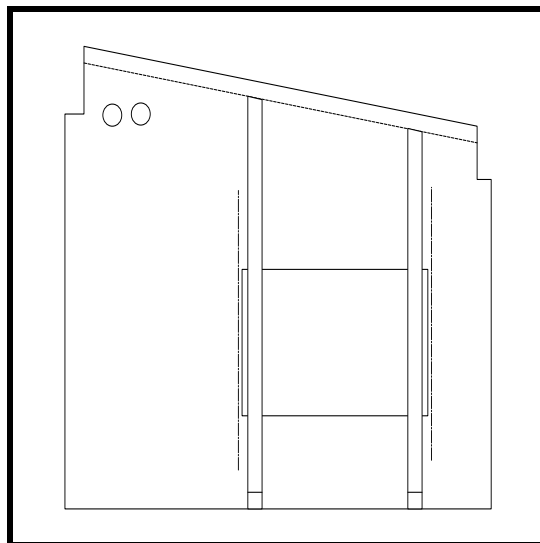

Figure 33
- ❑ Install the two 15x15 spruce supports on the underside of the floor board. Drawing No. 320 shows the location for these two supports, but the location can be improved slightly as shown in Figure 33. The best location for these supports is with the outboard edge of the supports 10mm in from the center of the holes for the hold-down bolts. This way, the blocking for the hold-down bolts can be located right next to the floor supports and will be stronger for negative-g aerobatics. If you attempt to locate the supports closer to the center of the bolts, you will not have room for the channel-nuts—remember there are plywood gussets installed on the supports that go to the lower side longeron.